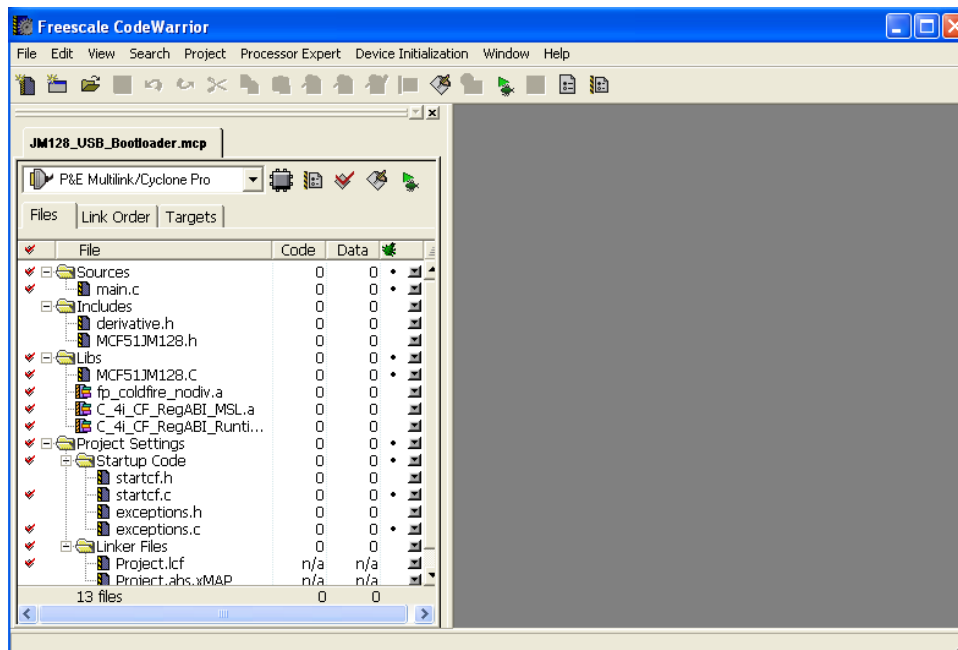

Figure 7. New CodeWarrior Project
4. With the default settings, the new created project looks like the project JM128_USB_Bootloader.mcp in Figure 7.